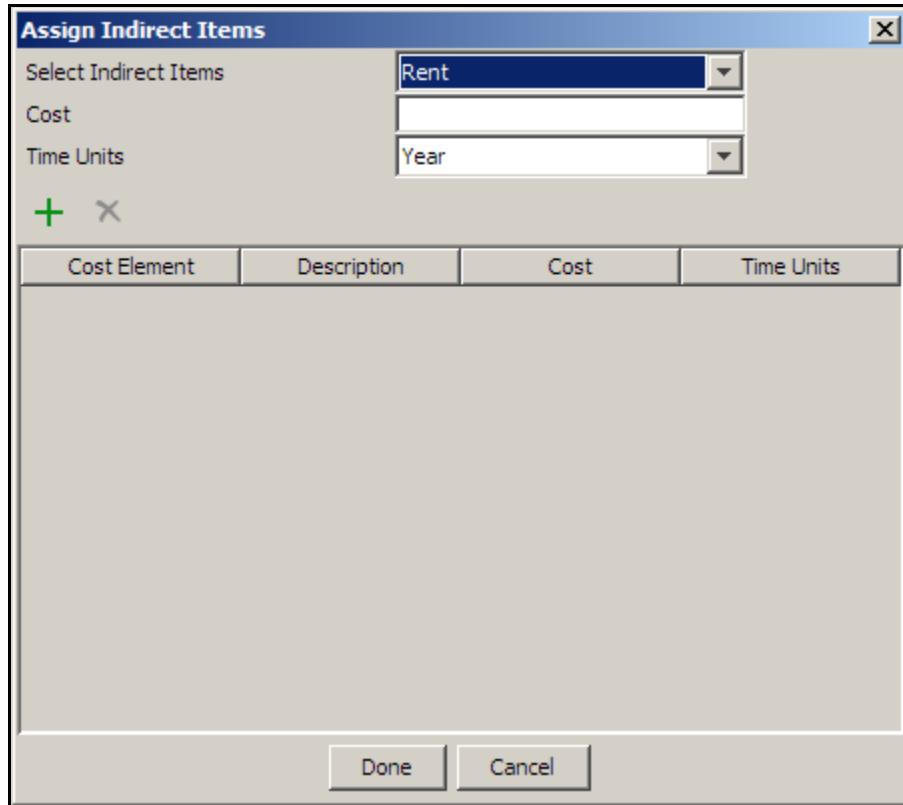

Figure 13: Assign Indirect Resource
1. To assign the indirect resource to be used by the activity, click **Assign** in the value column of the *Assign Indirect Items* property. The Assign Indirect Items dialog box appears (see Figure 13).